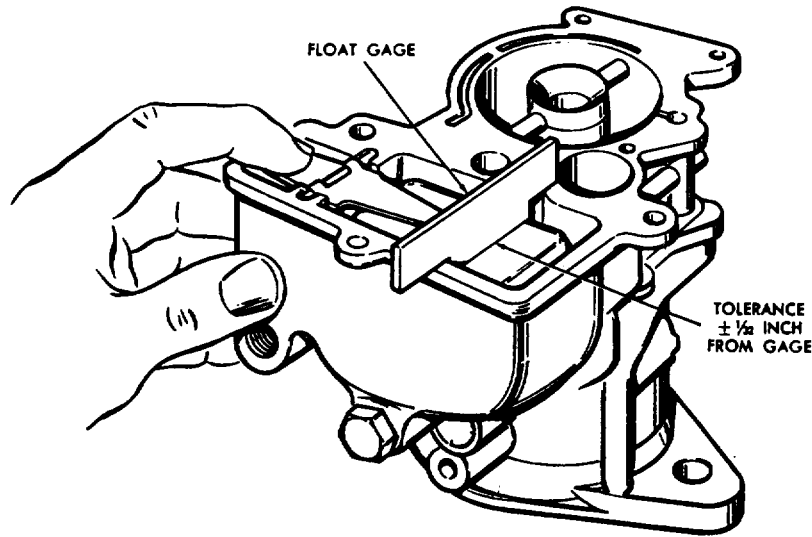

Figure 74. Checking carburetor float level.
a. Install the shaft hole plug (37) into the throttle shaft opening of the throttle body (38), and stake it in place with a sharp chisel. Then place the shaft seal retainer (31) and the shaft seal (32) on the throttle shaft and lever (28). Insert the throttle shaft and lever into the throttle body while holding the throttle body with the flanged end down. Rotate the shaft to the wide open position with the cutout section of the shaft facing away from the idle discharge ports. Insert the throttle plate (39) with the bevel on the leading edge away from the idle discharge ports. Close the throttle and center the plate so that the bevel fits the bore snugly; then start the throttle plate screws (40). Hold the throttle in the closed position and, at the same time, press in on the end of the throttle shaft to press the packing snugly in place while tightening the throttle plate screws securely. Screw the idle adjusting needle (34) with spring (35) into the throttle body. Seat it lightly against the needle seat and then back out one and one-half turns as a preliminary adjustment.
c. Assemble the fuel screen (26) to the channel plug (27). Install the fiber washer (25) on the filter plug, and install this group of parts in the fuel bowl.
d. Install the main jet (23) and fiber washer (24) with the special main jet wrench (par. 179). Install the main jet (23) and fiber washer (20) into the fuel bowl.
e. Install the check valve (18), disk side down, in the bottom of the fuel bowl and flush with the casting. Use the special check valve tool (par. 179) for installation. Then screw the valve channel plug (48) and fiber washer (20) down into place in the fuel bowl.
f. Screw the fuel valve seat (19) and its fiber washer (20) into place, with the special valve seat wrench (par. 179). Then place the fuel valve needle into the fuel valve seat with the knob end of the needle up.
g. Hold the free end of the float (15) and engage the knob end of the needle (19) with the slotted end of the float lever. Lift the float and needle and slip the float axle (17) through the float lever; then lower the axle into the slots and the casting. Press down firmly on the float lever directly over the fuel valve and check the float level. This float level can be checked with the special Zenith carburetor float depth gage (par. 179) as shown in figure 74. A tolerance of plus or minus 1/32 inch from the gage setting is permitted. Install the axle retainer plugs (16) with a flat end punch. Allow approximately 1/64 inch tolerance above the machined surface.
h. Insert the well seal washer (10) down into its opening in the fuel bowl. Then install the check valve with jet (47) open end down, into the same opening above the seal washer. The valve will extend approximately 1/64 inch above the surface of the bowl casting.
i. Install the pump (49), guide (50), spacer (51), and pump spring (52), in that order, into the pump cylinder. Position the bowl-to-intake gasket (12) on the fuel bowl. Then insert the vent and idle well (11) into the well on top of the bowl gasket, and put the well seal washer (10) in place on top of the idle jet.
j. Place the air intake body (5) upright on a bench, with the bowl cover end toward the right. Hold the choke plate (6) with